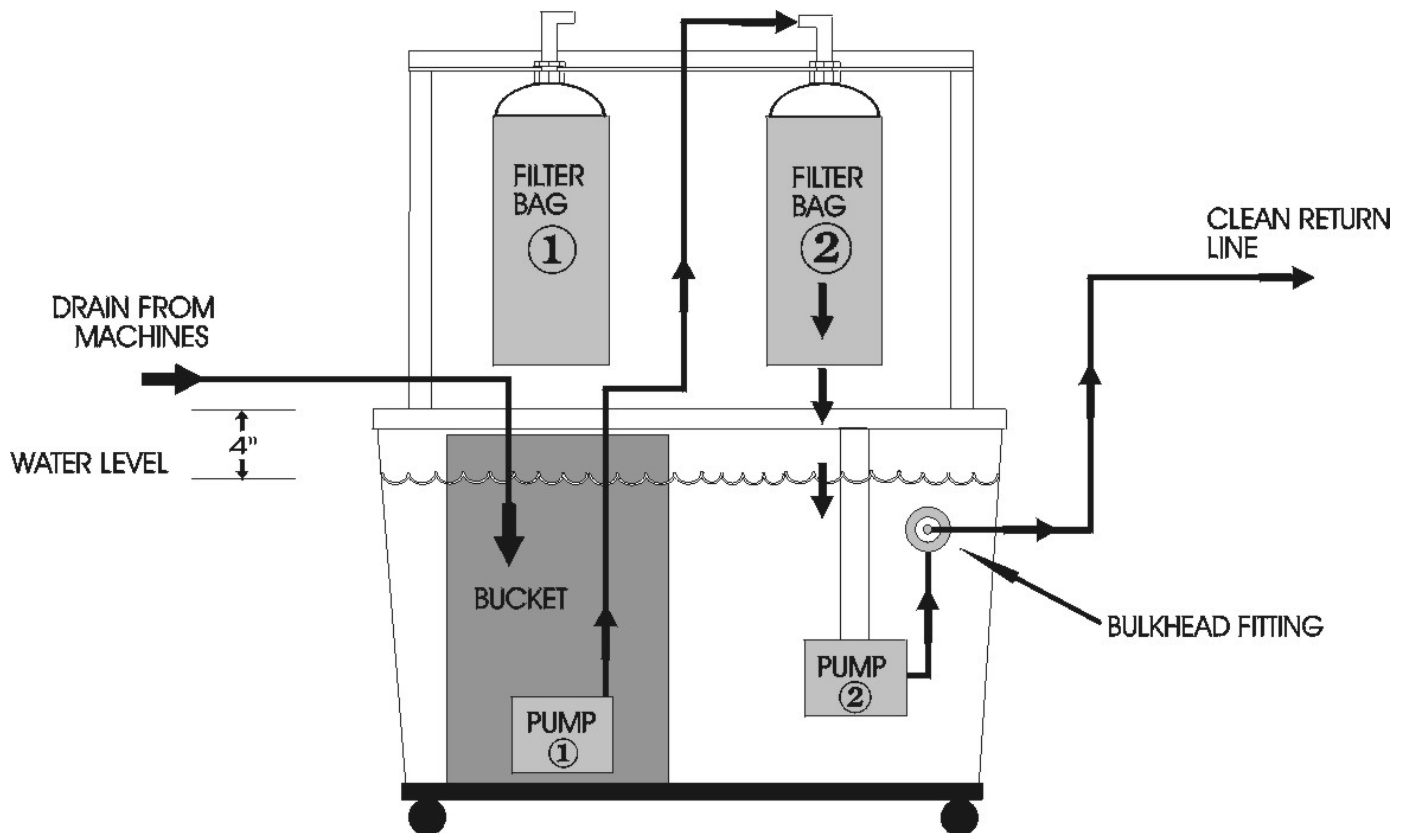

Figure 1
Water draining from the cylinder machines is directed to the 952A into the receiving bucket. Pump 1 (located in the bottom of the bucket) pumps the water up to the filter bag. Solids are removed by the bag and the water drains into the tank below. Pump 2 (located in the tank) pumps the clean water out through the bulkhead fitting and to the cylinder machines. The 'active' filter bag must always be located on the right side of the system (filter bag 2 in figure 1). After the bag has been used, it should be hung on the left side of the system (filter bag 1 in figure 1) to drain into the receiving bucket. The 952A will save you thousands of gallons of water daily and allow you to comply with most pollution laws.
7. Pump 2 should be hung on the back of the filter tank using the hanging bracket and should be positioned as shown in figure 1. Connect output line from the pump to the bulkhead fitting.
2. After the connections are made and the tank has been filled, turn on the clean water return pump (pump 2 in figure 1) and make sure that there is adequate flow to all machines. If there is inadequate flow, you may have too many machines connected, or you may need to open the valves at the individual machines.
3. Turn on the filter pump (pump 1 in figure 1). This will cause the level in the receiving bucket to drop about 2". As the filter bag collects and retains particles being removed from the fining water, the bag will clog and the pump will not be able to pump the fining water through the bag. This will cause the water level in the receiving bucket to rise. This is your indication that the bag should be changed. Failure to change bags at this point will cause the bucket to overflow into the clean water and contaminate it.
4. When it is time to change bags, turn off the filter pump (pump 1 in figure 1) and disconnect the 'active' filter bag at the quick-disconnect. Move the bag to the left side of the system and allow it to drain over the bucket. Move the empty bag to the right side of the system and connect it.